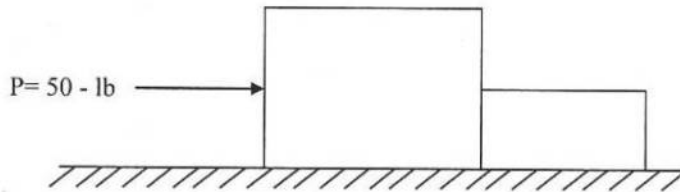

Figure 7
13) Crates A and B, shown in Figure 7, weighs 100 lb and 50 lb, respectively. If they start from rest, determine their speed when $t = 5\text{ s}$. Also, find the force exerted by crate A on crate B during the motion. The coefficient of kinetic friction between the crates and ground is $f_k = 0.25$.